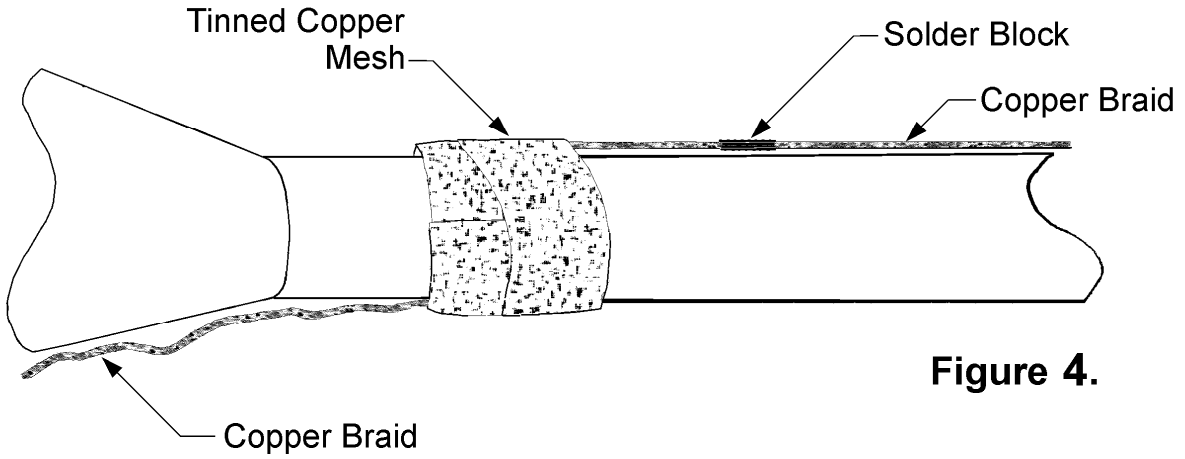

Figure 4.
7. Apply two layers of tinned copper mesh over the constant force spring bundle (Fig. 4).